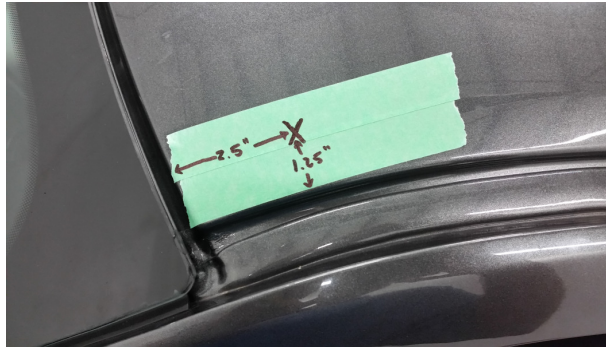

Figure 5
8. Drill $\frac{3}{8}$ " hole through roof. See **Figure 5** for recommended location. (2.5 inches from the windshield and 1.25 inches from the water track) Insert grommet into hole. **(Recommend sealing grommet areas with RTV Silicone after wiring is installed and verified)**